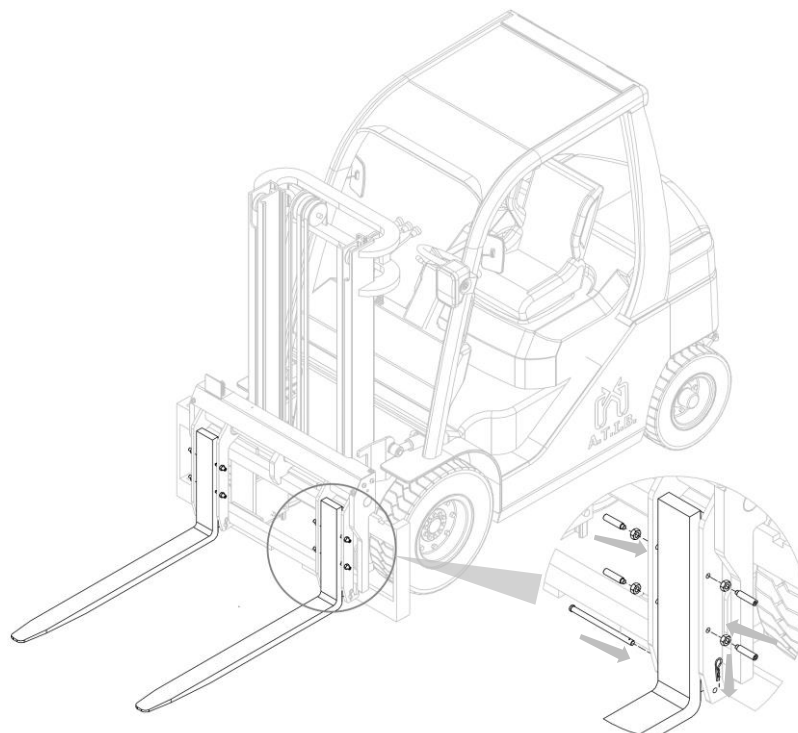

Figure 10
2. Insert the forks, tighten the fork stops on the side of the pockets and reposition the lower pins (see Point Securing the Forks) that secure the forks (see Figure 10).